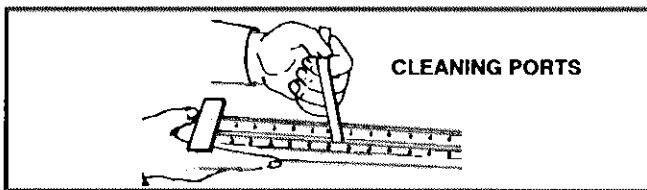

FIGURE 33
- 14— Clean burner ports by inserting a cleaning tool (made from a piece of sheet metal cut to fit the burner ports) and work in and out of each port. See figure 33.